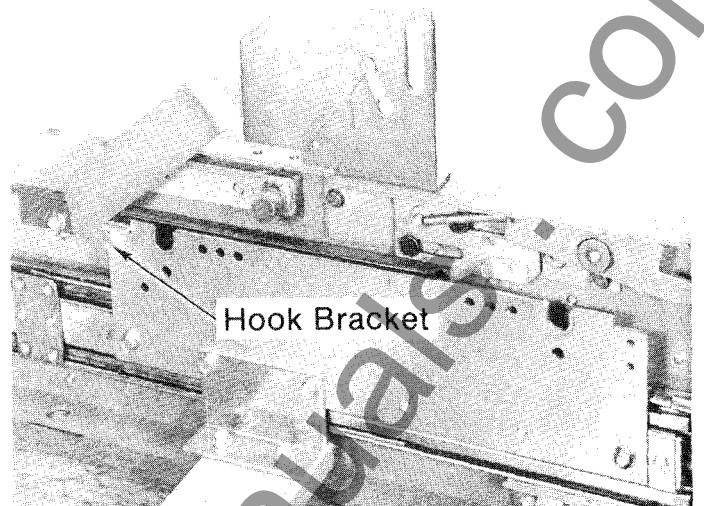

Fig. 3 Padlock accessory 343L689G2.
2. Padlock kit 343L689G2 requires the installation of a hook bracket to the mounting bracket, as shown in Fig. 3. Use the hardware provided.